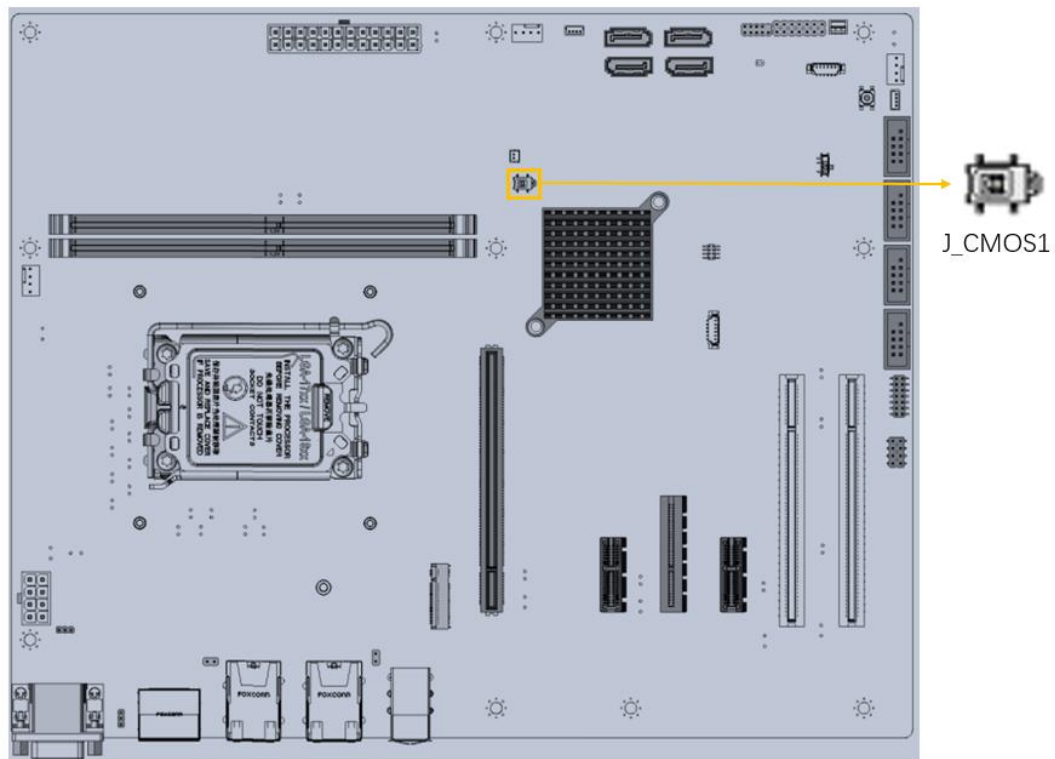

Figure 3-4: Clear CMOS Jumper Location
- CN Location:** See Figure 3-4